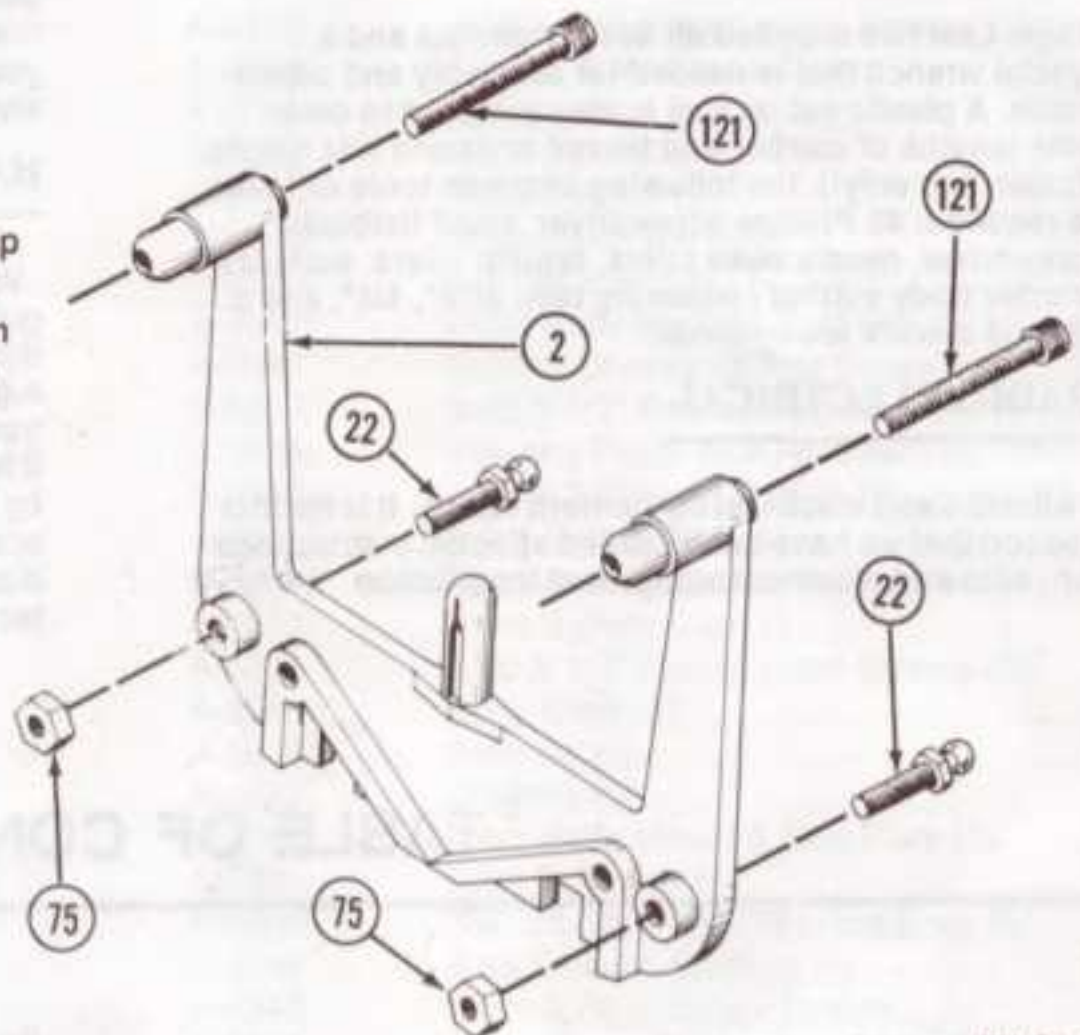

FIG. 1
1. Thread two 4-40 x 1" socket head screws (121) to top of front shock tower (2) from the rear as shown. Fig. 1.
2. Thread two 3/8" stud balls (22) into lower hole in front shock tower (2) and secure with 4-40 nylon nuts (75) as shown. Fig. 1.